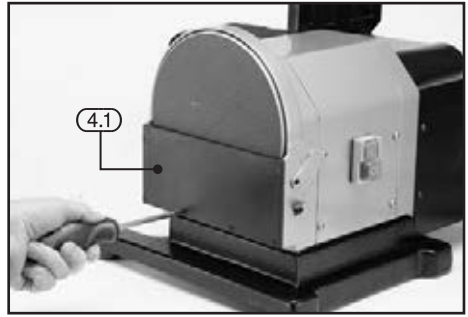

FIG.17
9.7 REPLACING THE SANDING DISC - FIG. 17